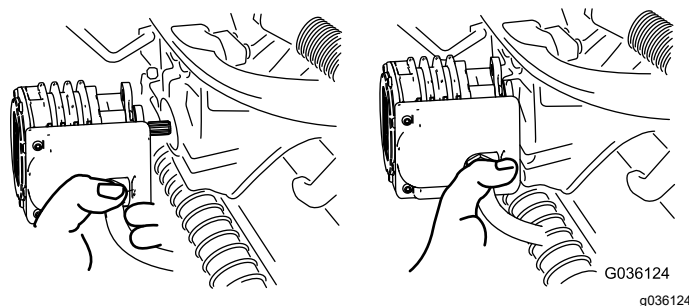

Figure 73
5. Move the motor to the storage location on the front of the suspension arm (Figure 73).